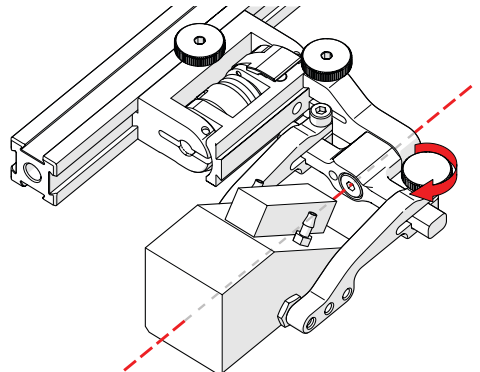

Fig. 75 - Pinch wedge with arm
9. Tighten probe holder arm adjustment knob (Fig. 75).